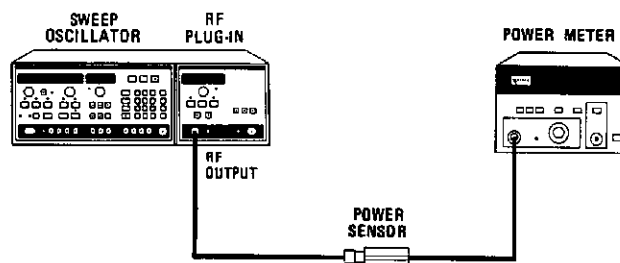

Figure 4-2. Output Amplitude Test Setup
1. Connect equipment as shown in Figure 4-2.